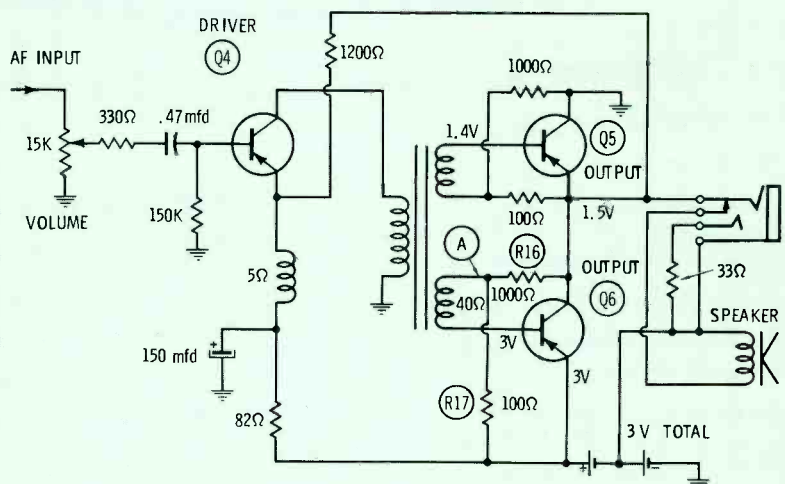

Fig. 2. Improper bias in audio stages causes distortion at low volume.
Step 1: Connect radio to power supply (Fig. 2). Check current drain with volume turned down.